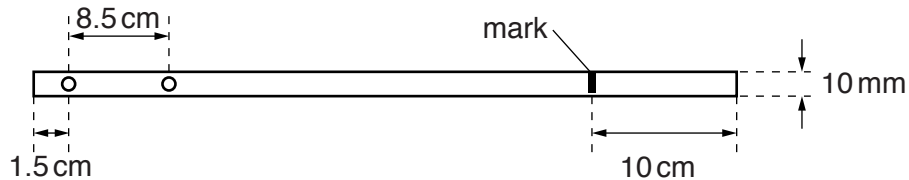

Fig. 2.2 (not to scale)
- 3 The wooden strip should have two holes of diameter 3.5 mm drilled in it at the positions shown in Fig. 2.2.
Using a fine permanent ink marker pen, a small mark should be made on the side of the strip as shown in Fig. 2.2.